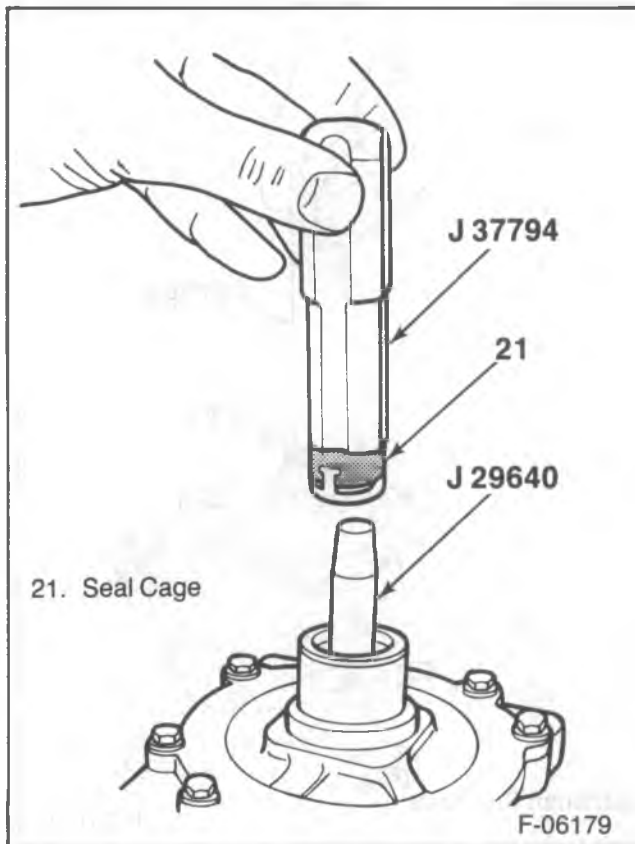

Figure 13—Installing the Seal Cage
2. Slots of J 37794 to the new seal cage (21).
3. Seal assembly into place in the compressor seal cavity (figure 13).